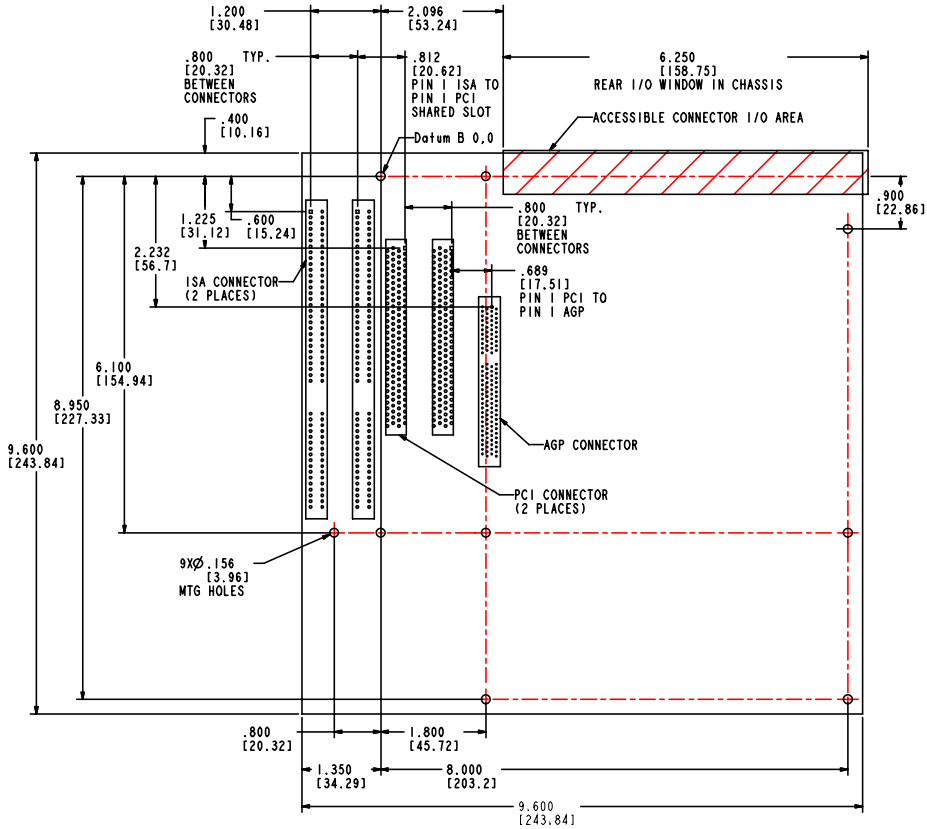

Figure 3: Example microATX Layout Diagram
- Figure 3, the sample layout diagram, shows the exact location (dimensions) of the mounting holes for microATX boards.
Notes: In Figure 2, Figure 3, and Figure 8, the board is shown oriented with the rear of the board toward the top. The shaded portion to the left above indicates the greater width of the ATX form factor. For details about mounting holes and board sizes, see the mechanical drawing in this specification.
Table 5 lists connector locations. Figure 3 clearly defines the location of the PCI, ISA, and AGP connectors as well as the allowable placement area for I/O connectors on the back panel. The specification provides recommendations, but the exact location of other connectors is left to the judgment of the motherboard designer working in conjunction with the system integrator.
The microATX form-factor supports up to **four** expansion slots. These slots can be any combination of ISA, PCI, CNR, AGP, shared ISA/PCI, or shared CNR/PCI add-in boards. Figure 3 shows a typical combination of two ISA slots and two PCI slots, one of which is a shared ISA/PCI slot. The location of pin 1 is defined for each of the connectors. If a combination other than that shown in Figure 3 is desired, motherboard designers should extrapolate the location of pin one on each of the connectors. The slot spacing must remain constant.
To allow all add-in cards to be full length, it is recommended that the height of any board component located toward the front left edge of the board (as viewed in Figure 3) be less than 0.6 inches (15.2mm) (plus clearance for the board components).
The exact locations of the floppy, IDE, and/or SCSI I/O connectors are not specified. It is recommended that they be placed along the front edge of the board (oriented as in Figure 3) to the right of the expansion slots. When placing connectors, the designer should keep in mind that proper clearance must be provided for the chassis peripheral bays.
The exact location of the front panel I/O connector is not specified. It is recommended that the connector be placed along the front edge of the board (oriented as in Figure 3) to the right of the expansion slots. When placing the connector, the designer should keep in mind that proper clearance must be provided for the chassis peripheral bays. Locating the front panel I/O connector along the left edge of the board is not recommended because of limited clearance with a full length add-in card.
The microATX power supply connector definition is identical to that of ATX. The exact location of the power connector is not specified. It is recommended that it be placed along the right-hand side of the board ("right" per orientation of board as shown in Figure 3), considering the location of the processor, core logic, and clearance for the peripheral bays. Locating the 2x2 processor power connector near the processor voltage regulation circuitry will help to ensure clean power and improve board layout.